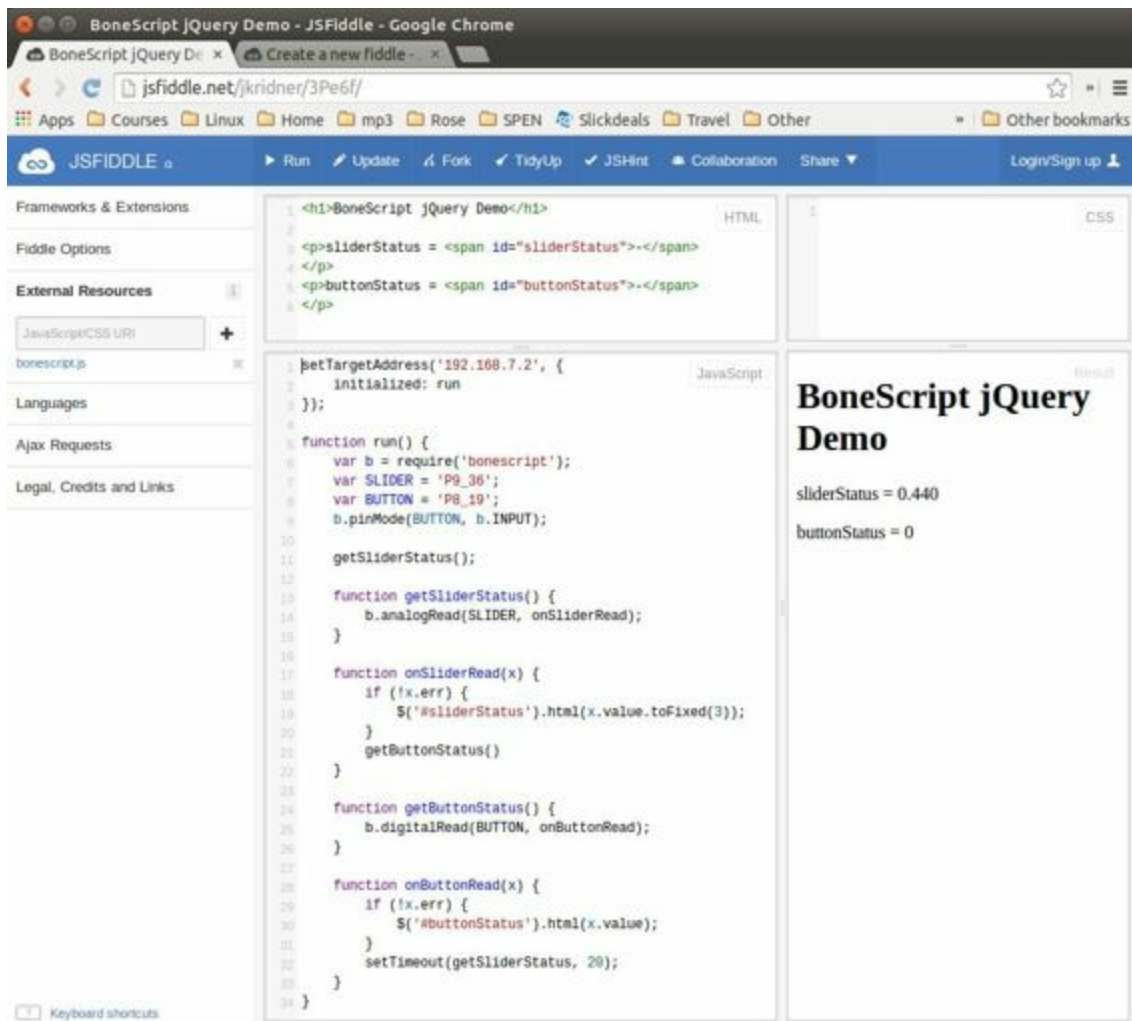
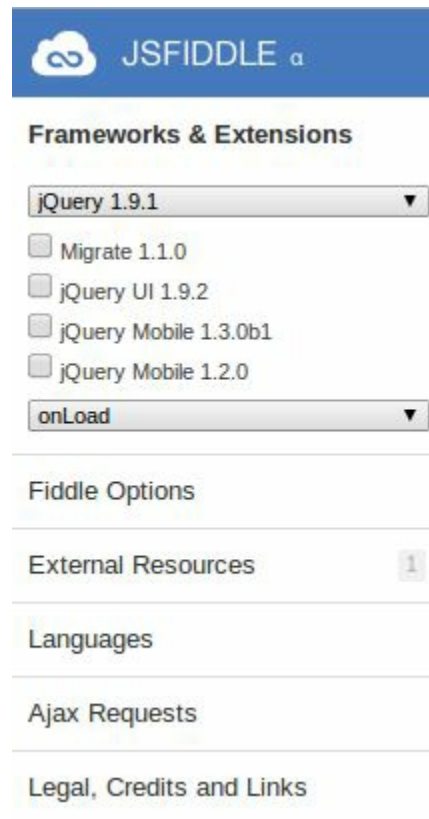

Figure 6-4. jsfiddle example of GPIO
Figure 6-5. jsfiddle Frameworks & Extensions
**jsfiddle** is a website that lets you fiddle with JavaScript. It's best introduced by an example. Point your browser to **jQuery example**, and you will see the screen shown in **Figure 6-4**.
Go to a working jsfiddle page (such as the one shown in **Figure 6-4**) and do the following:
The additional HTML used in this recipe is loaded in code for *jquery.js*, *bonescript.js*, and our own *jQueryDemo.js*. How did we know to add *jquery.js* and *bonescript.js*? Look in the left column of Figure 6-4. Under External Resources, *bonescript.js* is listed, thus alerting us that we need to include it. But what about *jquery.js*? Click Frameworks & Extensions, and you'll see Figure 6-5.